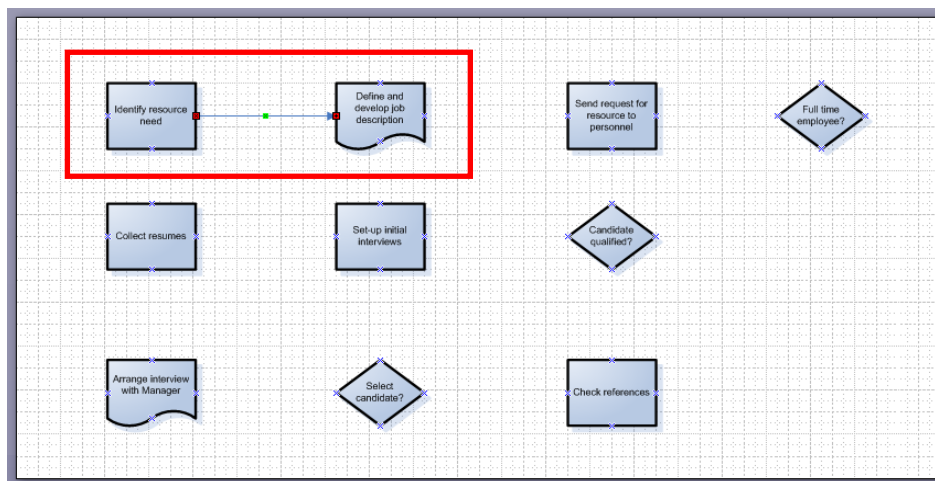

Figure 13 – Point-to-point Connection Using the Connector Tool
3. In the first row of shapes, drag from the right connection point  on the first **Process** shape  to the left connection point on the **Document** shape . The connector endpoints turn red  when the shapes are connected (see Figure 13).